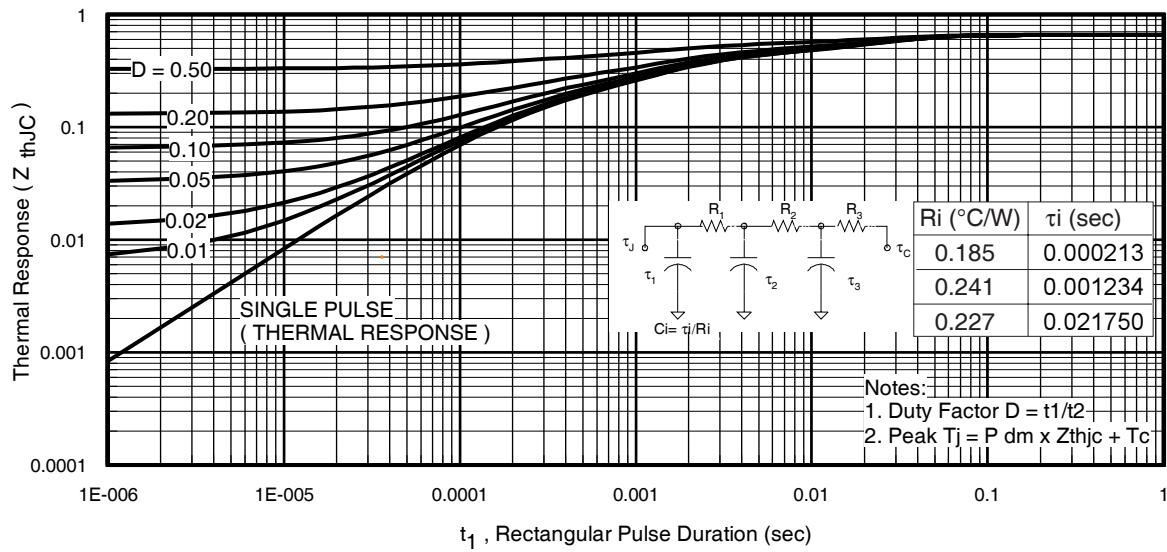
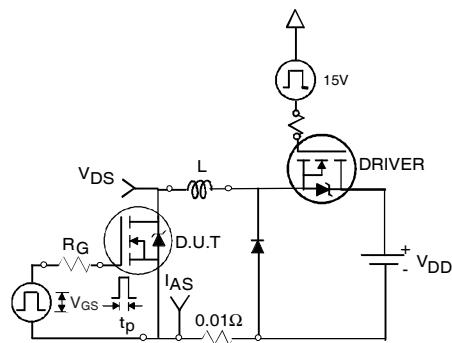

Fig 11. Maximum Effective Transient Thermal Impedance, Junction-to-Case
Fig 12a. Unclamped Inductive Test Circuit
- ① Repetitive rating; pulse width limited by max. junction temperature. (See fig. 11).
- ② Limited by $T_{J\text{max}}$, starting $T_J = 25^\circ\text{C}$, $L = 0.079\text{mH}$, $R_G = 25\Omega$, $I_{AS} = 75\text{A}$, $V_{GS} = 10V$. Part not recommended for use above this value.
- ③ Pulse width $\leq 1.0\text{ms}$; duty cycle $\leq 2\%$.
- ④ $C_{oss \text{ eff.}}$ is a fixed capacitance that gives the same charging time as C_{oss} while V_{DS} is rising from 0 to 80% V_{DSS} .
- ⑤ Limited by $T_{J\text{max}}$, see Fig.12a, 12b, 15, 16 for typical repetitive avalanche performance.
- ⑥ This value determined from sample failure population. 100% tested to this value in production.
- ⑦ This is only applied to TO-220AB package.
- ⑧ When mounted on 1" square PCB (FR-4 or G-10 Material). For recommended footprint and soldering techniques refer to application note #AN-994.
3. Equation below based on circuit and waveforms shown in Figures 12a, 12b.
- $Z_{thJC}(D, t_{av})$ = Transient thermal resistance, see figure 11